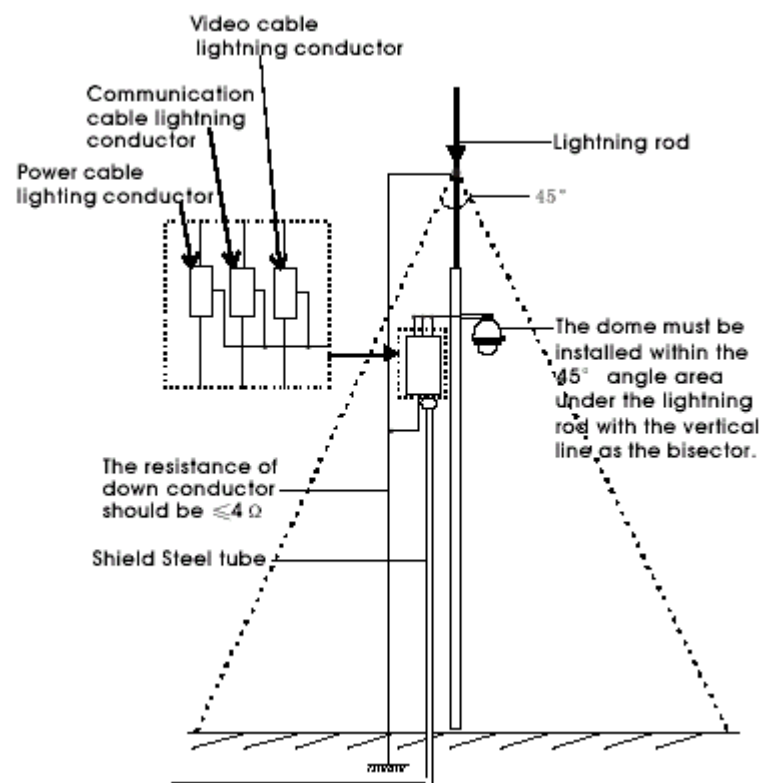

Figure 36
- | The system must be grounded with equal potentials. The earth ground connection must satisfy anti-interference and electrical safety requirements and must not short circuit the high voltage electricity network. When the system is grounded separately, the resistance of the down conductor should be $\leq 4 \Omega$ and the sectional size of the down conductor should be $\leq 25\text{mm}^2$ (refer to Fig 36).